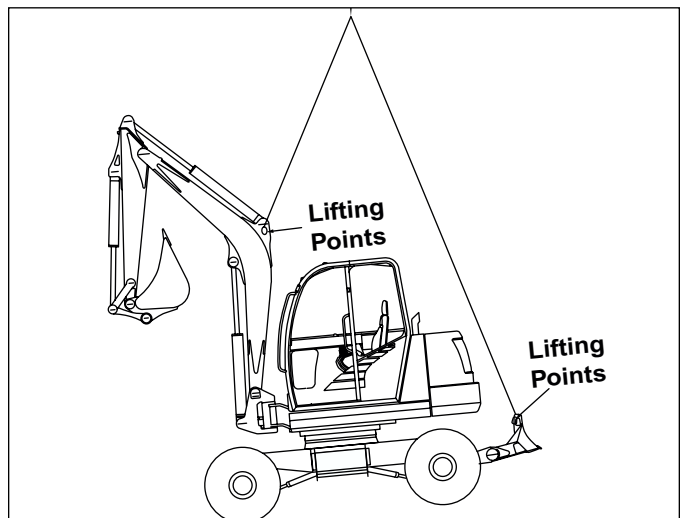

Figure 3-22. Machine Lifting Points
- Secure the lifting fixture sling to the lifting points on the machine (Figure 3-22).